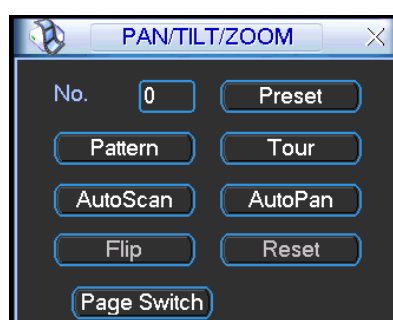

Figure 4-40
In Figure 4-36, click page switch button, the interface is shown as in Figure 4-40. Here you can activate the following functions:
- The following setups are usually operated in the Figure 4-36, Figure 4-39 and Figure 4-40.
In Figure 4-40, please input preset number in the No. blank, and click preset button.
In Figure 4-40, click "Auto Scan" button, the system begins auto scan. Correspondingly, the auto scan button becomes Stop button. Click stop button to terminate scan operation.
In Figure 4-40, click page switch button, you can see an interface is shown as below. See Figure 4-45. Here you can set auxiliary function. The aux value has relation ship with the Aux button of the decoder.